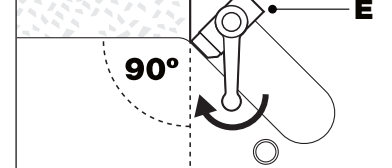

Fig. 4d
- Remove pins and/or cams - **(Fig. 4d)**